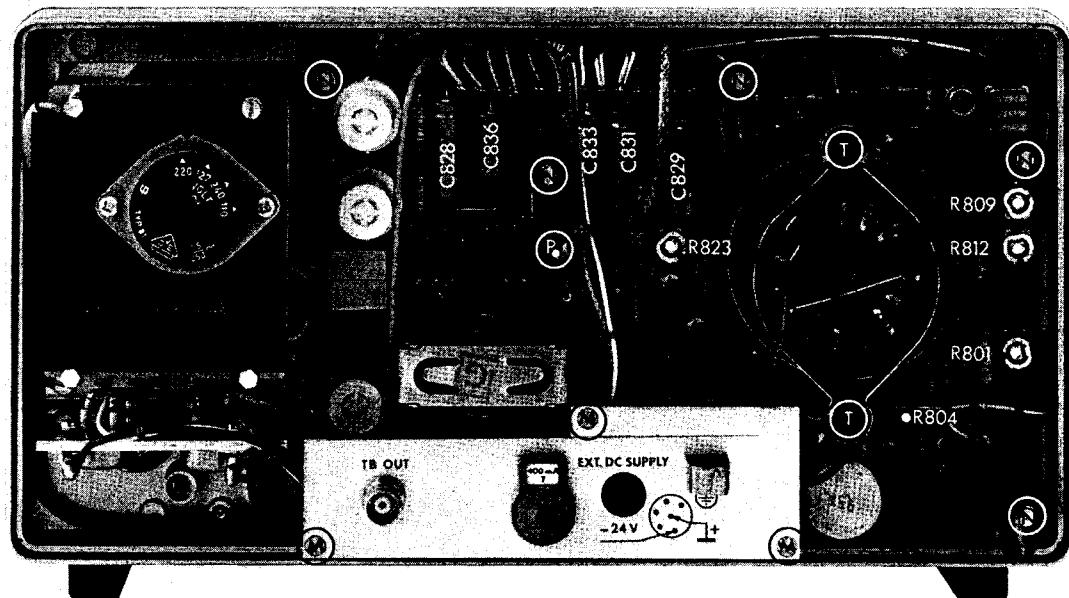

Fig. 3.15. Adjusting and dismantling
- Check that the voltage across capacitor C833 is +12 V, + or –20 mV; if necessary, readjust potentiometer R823 (Fig. 3.15.).
- Set potentiometer R801 (Fig. 3.15.) to its mid-position and potentiometer R553 (Fig. 3.17.) anti-clockwise.
- Check that both traces are equally bright. If necessary, turn screw T (Fig. 2.1.) or rotate magnet T (Fig. 3.15) until both traces have the same brightness.
- Adjust FOCUS potentiometer R9 and astigmatism potentiometer R809 (Fig. 3.15.) for sharp, well-defined traces. Find the setting that gives the best result for both channels.
- Set FOCUS potentiometer R9 in mid-stroke position and check for sharp traces. If necessary select a different value for R804 (Fig. 3.15.).
- Check that the displayed line is straight and vertical in both positions. A small deviation may occur. If necessary, adjust and determine an average setting with the aid of potentiometer R812 (Fig. 3.15.).
- The spots must be barely visible; if necessary, readjust potentiometer R801 (Fig. 3.15.).